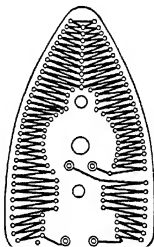

FIG. 83. Interior view of laundry iron showing heating element.
**Prob. 12-4.** How many watts are consumed by the electric iron in Fig. 83 which uses 6.3 amperes in a 110-volt circuit?